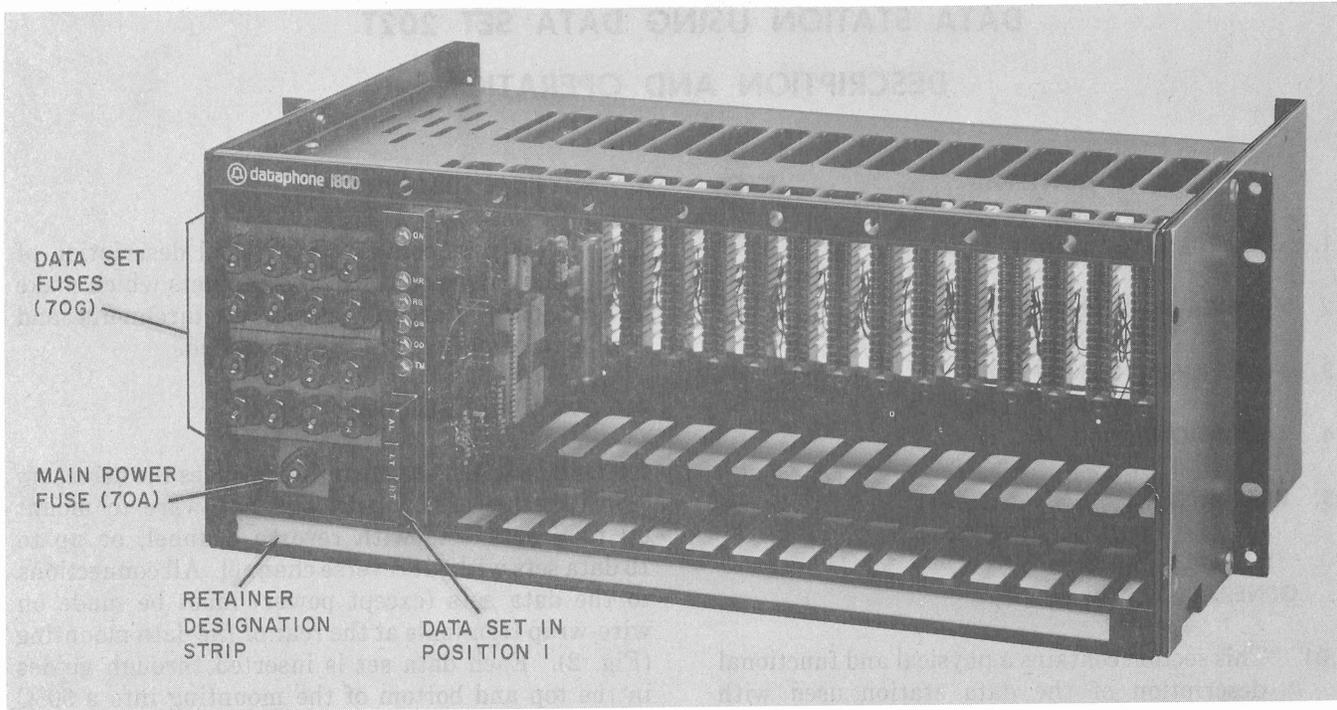

Fig. 1—Front View of 39A1 Data Mounting
- Up to 8 data sets with reverse channel (or 16 data sets without reverse channel) in a 39A1 data mounting for installation in a 19- or 23-inch relay rack (Fig. 1), or in a 40B1 data mounting in a KS-20018-L12A cabinet